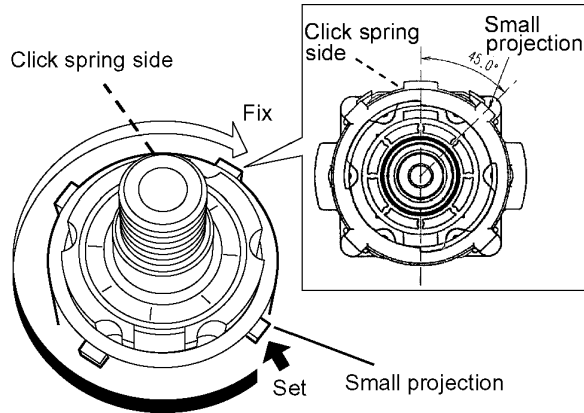

Fig. 13
2. Turn the adjusting screw into the driving block about 255° rotation (to 2 o'clock position) for clockwise direction. (See Fig. 13)